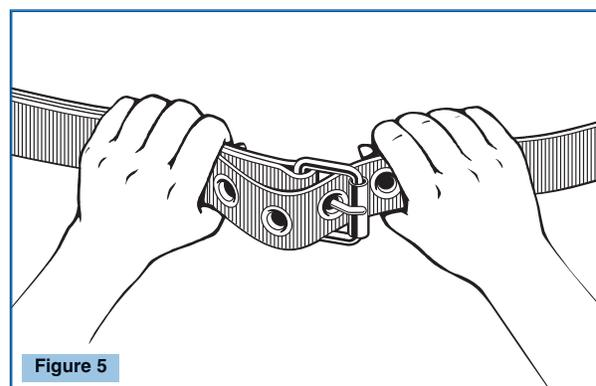

Figure 5
- 5. Inspect tongue buckles.** Check all tongue buckles for distortion, sharp edges, and cracks. The tongue should move freely and overlap the frame. Rollers should not be distorted and should roll freely. (See Fig. 5)